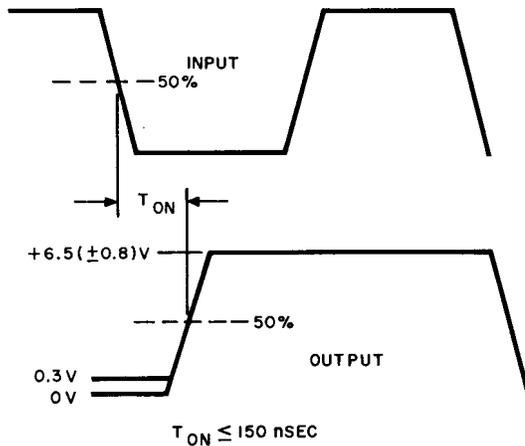

Fig. 10A — Complementary Flip-Flop Test
- (1) Rotate the EXT SYNC TRIGGER selector to the (—) negative position.
- (2) Rotate the TEST FUNCTION selector to position 3.
- (3) Connect the EXT SYNC lead to J4 on the test set.
- (4) Connect the CHAN A probe to J7 on the test set.
- (5) Connect the CHAN B probe to J3 on the test set.
- (6) Rotate the INPUT selector through positions 1 to 6.
- (7) The output pulse on J3 of the test set shall be as specified in Fig. 10A.
- (8) Connect the EXT SYNC lead to J3 on the test set.
- (9) Connect the CHAN B probe to J4 on the test set.
- (10) Repeat (6). The output pulse on J4 shall be as shown in Fig. 10A.